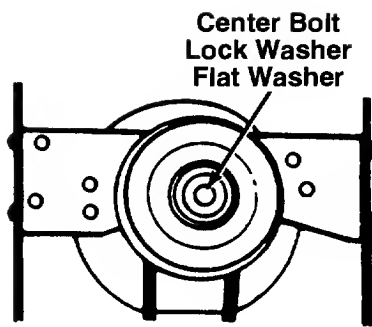

FIGURE 22.
5. Remove the center bolt, lock washer and flat washer, and let the engine pulley drop down so the belt is past the belt guards. See figure 22.